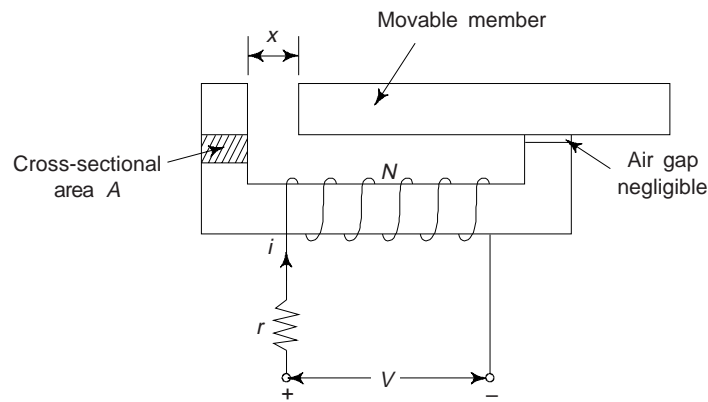

Fig. P4.7
- 4.2 In Fig. P4.7(b) if the i - λ curve ab is assumed to be a straight line, find an expression for the mechanical energy output. If this figure pertains to the electromagnetic relay of Fig. 4.11, find the value of the mechanical energy output, given that $i_1 = 2.0 \text{ A}$, $i_2 = 1.5 \text{ A}$, $x_a = 1 \text{ cm}$ and $x_b = 0.5 \text{ cm}$.
- 4.7 For the electromagnetic device shown in Fig. P4.7, assume the reluctance of the iron part of the magnetic circuit to be negligible. Determine the time average force on the movable member at any fixed position of the moving member, if